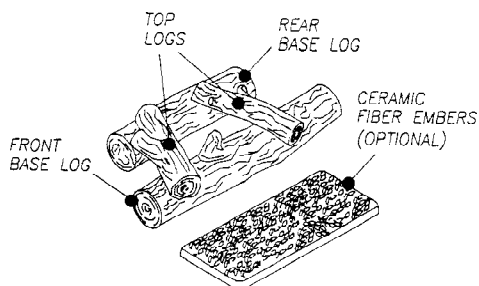

Figure 28
5. Next remove the 'ceramic fiber embers' from their bag and place small pieces of the material in the top of the rock. Carefully place log set as shown in **Figure 28**. Be careful not to alter the thermopile settings.